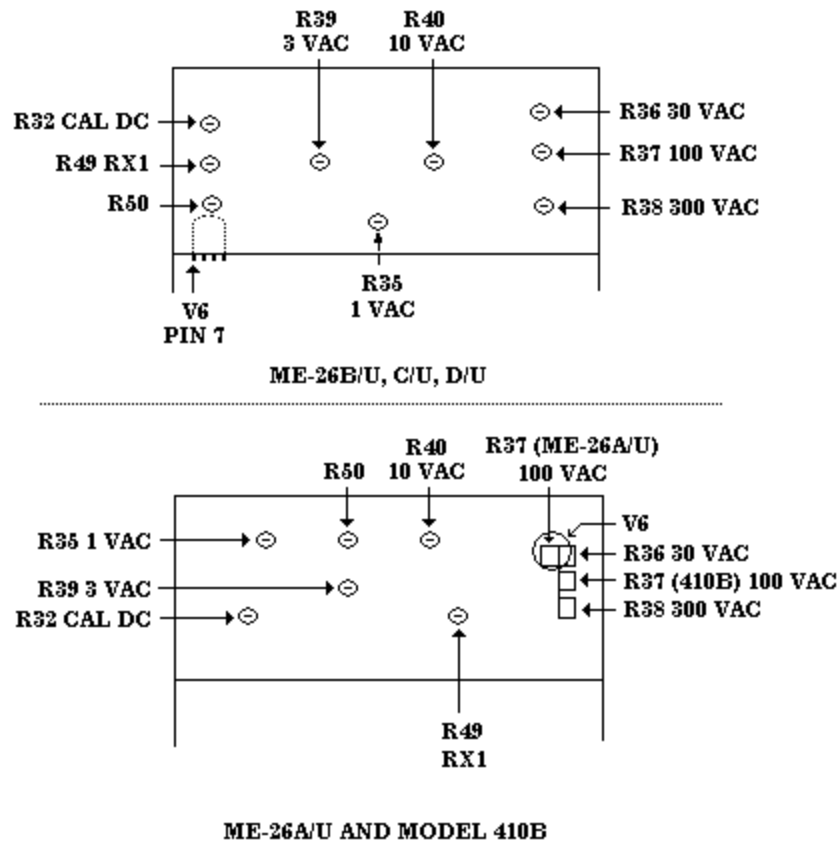

Figure 1. Adjustment locations - rear view.
- (1) Set calibrator to 1.000 V.
- (2) Adjust R32 CAL DC (fig. 1) for a 1 V indication on TI (R).
(1) Connect multimeter **INPUT HI** to V6 PIN 7 (fig. 1) and **LO** ground. If multimeter does not indicate between 4.9 and 5.1 V ac (for **AC PROBE** diode 2-01C) or 6.2 and 6.4 V ac (for **AC PROBE** diode EA53), adjust R50 (fig. 1) for 5 V ac or 6.3 V ac as applicable (R).
(2) Set calibrator to 1.000 V.
(3) Adjust R35 1 VAC (fig. 1) for a 1 V indication on TI (R).
- (1) Remove **OHMS** lead from resistance standard and set **RANGE** switch to **RX10 3V**. Adjust **OHM ADJ** for ¥ meter indication.
- (2) Set **RANGE** switch to **RX1 1V**. Adjust **R49 RX1** (fig. 1) for ¥ meter indication (R).
- (3) Repeat **a** (2) through (7) above.